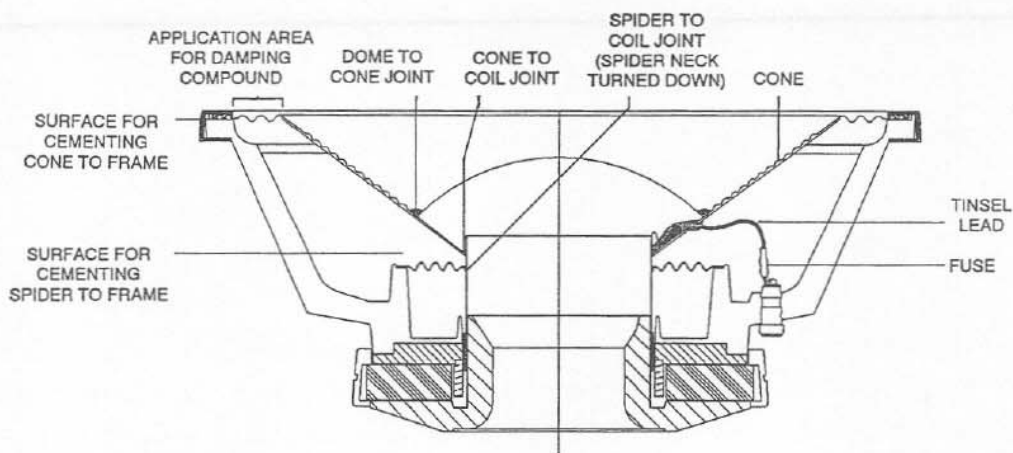

Figure 1. EVX Gluing Instructions
4. Remove the white heat shrink tubing from the fuse that is attached to the positive input terminal (see Figure 1). Replace the fuse with a BUSS GFA10 (10A, FAST BLOW) fuse.
13. Slide the piece of heat shrink tubing (EV #66093B) over the tinsel lead that attaches to the fuse which is connected to the positive input terminal (see Figure 1). Solder the tinsel lead to the fuse using a 10W, 500°F soldering iron. Using an iron of higher temperature may damage the fuse. Slide the tubing over the fuse and shrink using a heat gun.